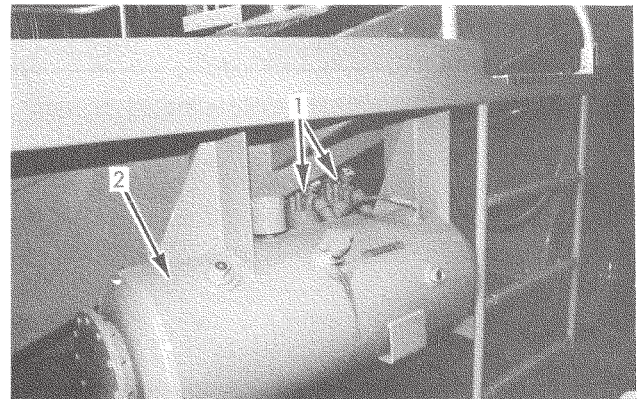

Figure 30. Suction Filters
5. Remove suction filter elements; fill with hydraulic oil and reinstall. (Fig. 30)